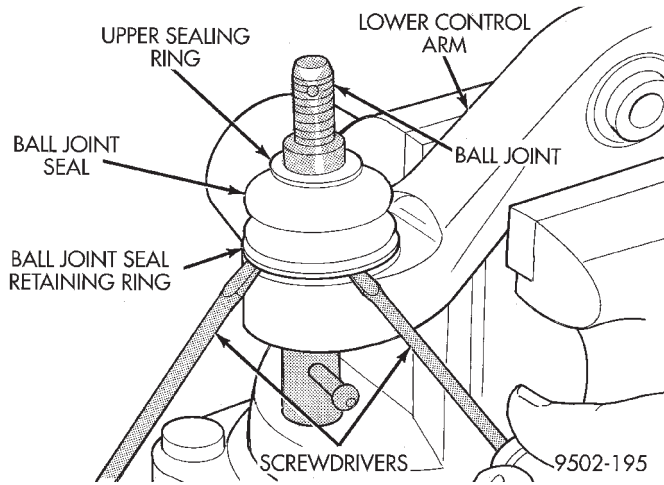

Fig. 80 Removing Ball Joint Seal Retaining Ring
(4) Using 2 screwdrivers (Fig. 80) remove the ball joint seal retaining ring from the bottom of the ball joint seal.